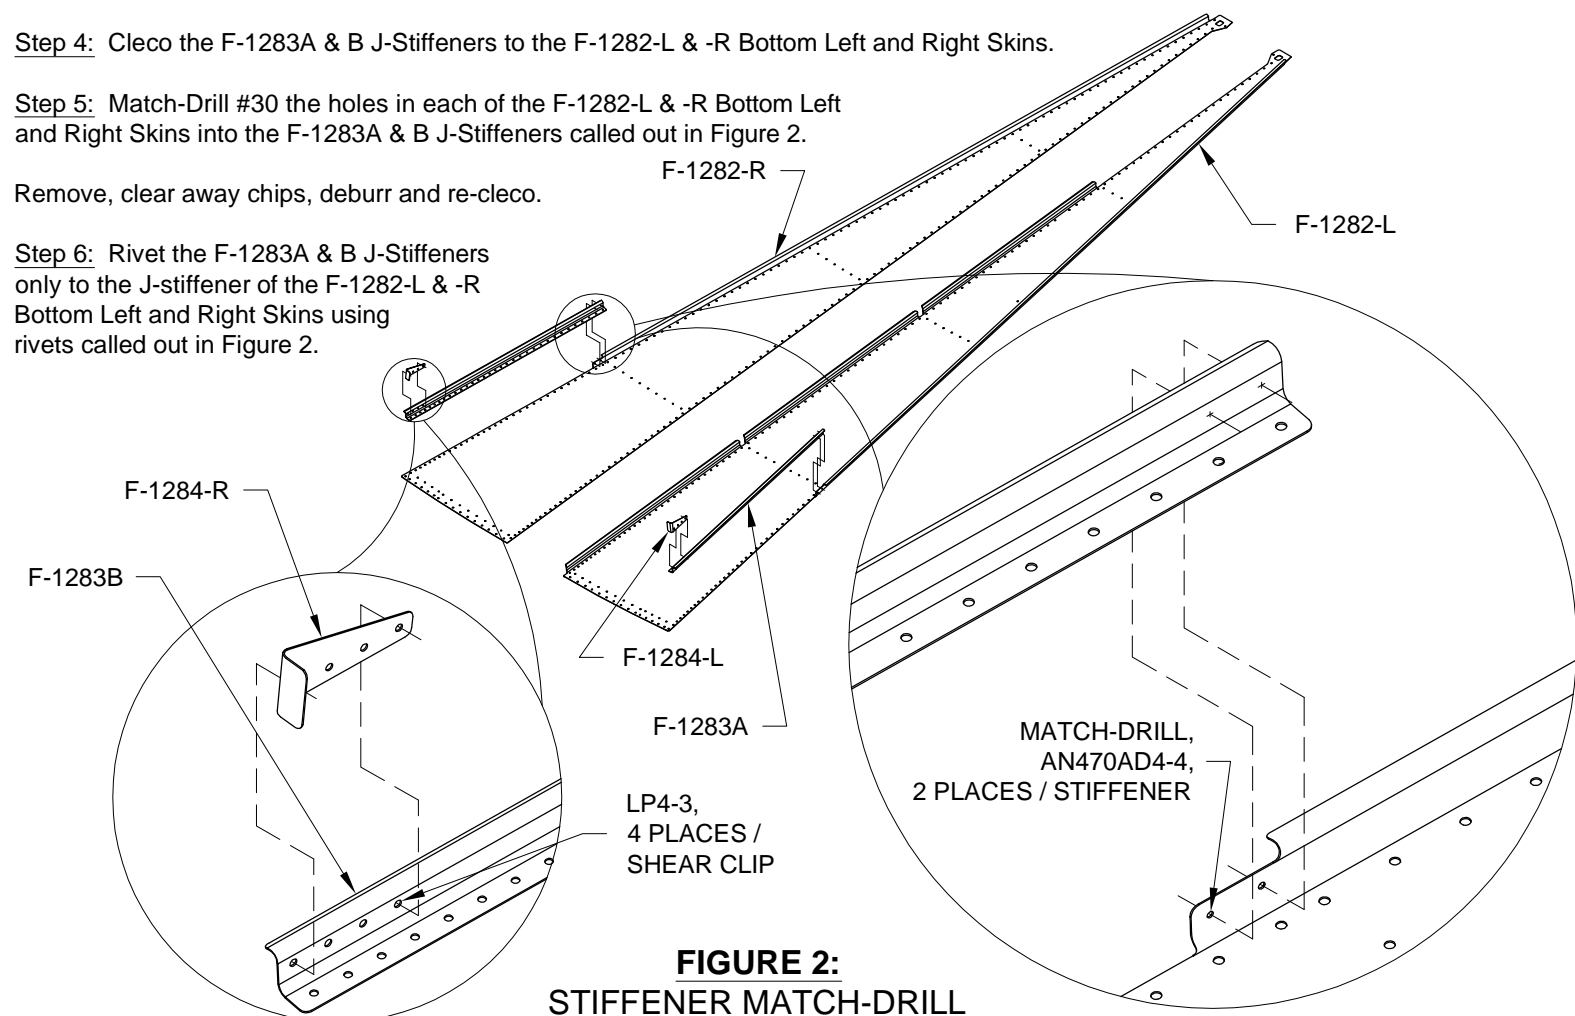

FIGURE 2:
Step 6: Rivet the F-1283A & B J-Stiffeners only to the J-stiffener of the F-1282-L & -R Bottom Left and Right Skins using rivets called out in Figure 2.